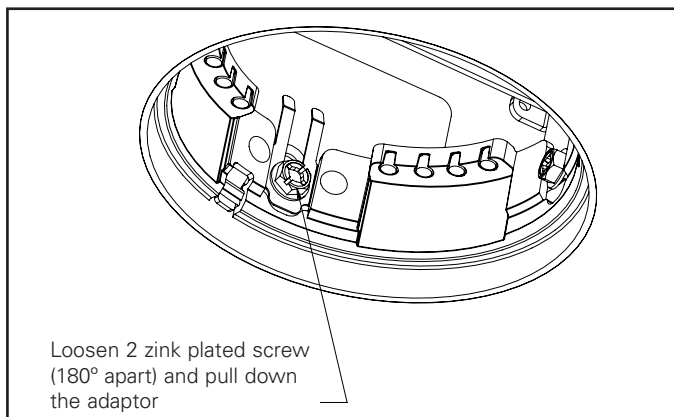

Figure 16.
4. Remove the adaptor from ceiling by loosening the 2 zinc plate hex screws (copper color) that attach the collar to the housing (see Fig. 16). Only loosen the screw; do not remove it from the assembly
4. Remove the adapter from ceiling by loosening the 2-zinc plate hex screws (copper color) that attach the collar to the housing (see Fig. 16). Only loosen the screw; do not remove it from the assembly.
4. Remove the adaptor from ceiling by loosening the 2 zinc plate hex screws (copper color) that attach the collar to the housing (see Fig. 16). Only loosen the screw; do not remove it from the assembly.